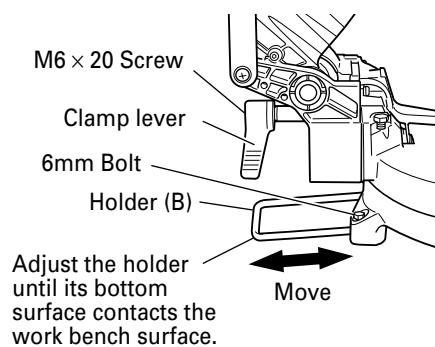

Fig. 5-a
Attach the included holder (B) in the position as shown in figure 5 and adjust the holder (B) until its bottom surface contacts the work bench surface. After adjustments, securely tighten the 6mm bolt with the included 10mm box wrench. Loosen the M6 × 20 screw on the clamp lever and attach to a position where the clamp lever can be easily operated.